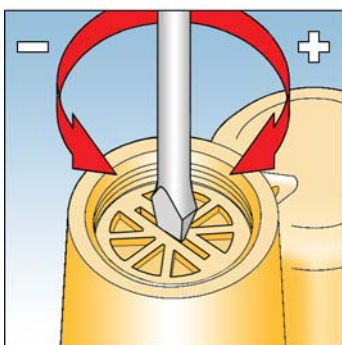

Fig. 5
16. If safety shut-off device is fitted unscrew reset spindle end cap and firmly pull. Hold in this position until the outlet pipework is fully pressurized, then release reset spindle end cap gently. See Fig. 5.
**WARNING: DO NOT UNDER ANY CIRCUMSTANCES WEDGE OPEN SAFETY SHUT-OFF RESET END CAP AS THIS WILL NOT ALLOW THE SAFETY DEVICE(S) TO FUNCTION IN ADVERSE PRESSURE CONDITIONS.**